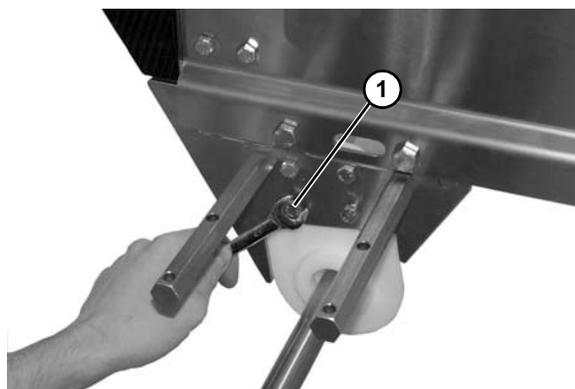

Figure 40
7. Remove the four head plate bolts (**Figure 40, item 1**) on both sides of conveyor.